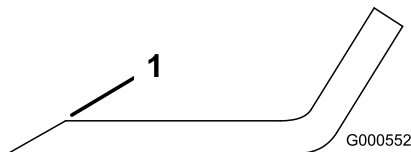

Figure 102
1. Use a file to sharpen the cutting edge at both ends of the blade (Figure 102).
**Note:** If the blade is not balanced, file some metal off the end of the sail area only (Figure 102).